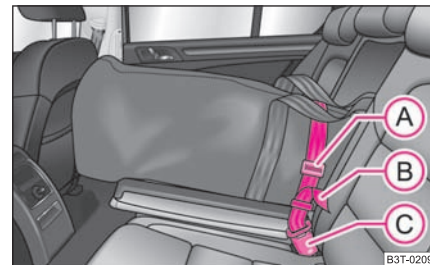

Fig. 106 Attaching through-loading bag to middle seat belt buckle of rear seats
- Insert the securing belt of the through-loading bag (A) into the middle seat belt buckle (C) ⇒ fig. 106.
- Pull the securing belt tight at the free end of the belt (B). ▶